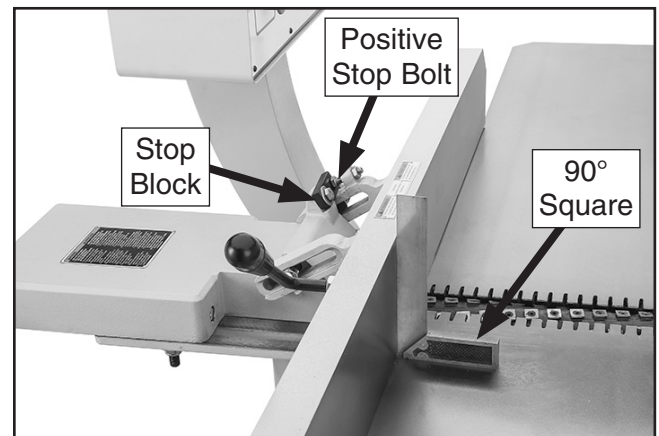

Figure 63. Adjusting fence to 90°.
2. Loosen fence tilt lock, rotate stop block down, and position fence approximately 90° onto positive stop bolt (see **Figure 63**).
5. Verify angle with 90° square, as shown in **Figure 63**, then retighten jam nut.